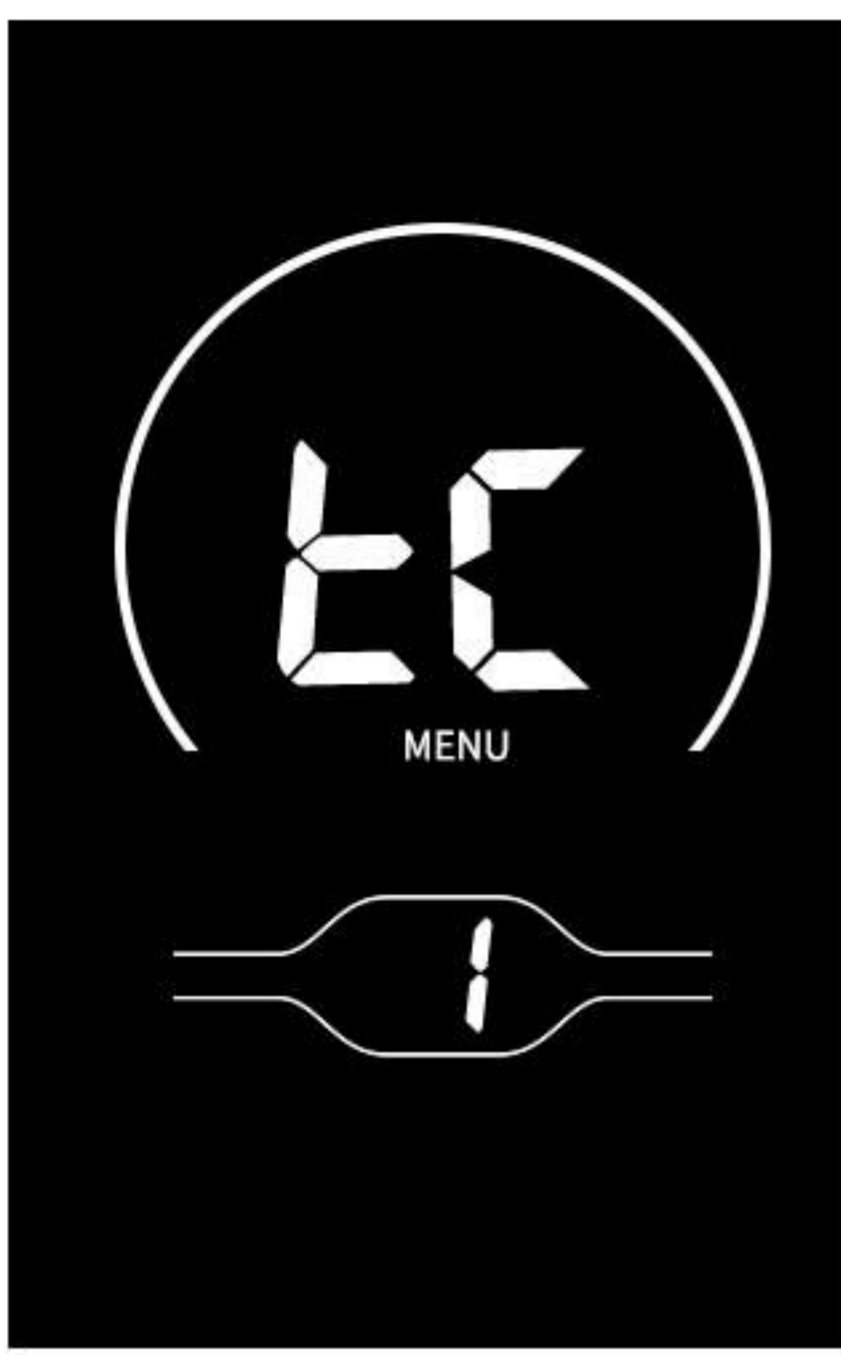

Fig2.6
Step 1: Press and hold the **+** **-** key simultaneously for more than 4 seconds to enter the general settings menu (Fig2.6)